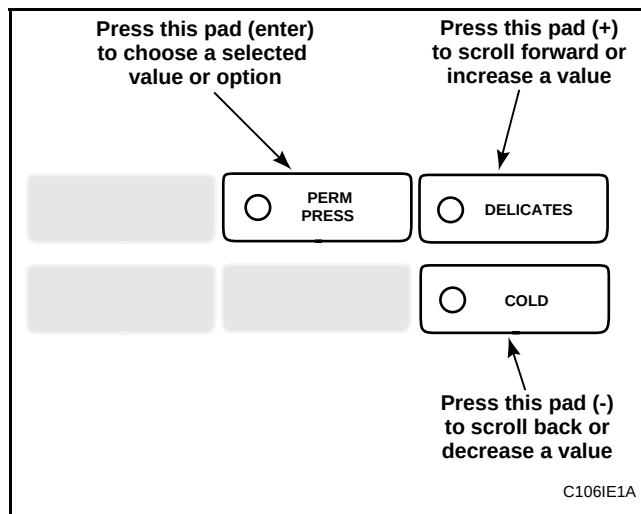

Figure 81
5. Press the DELICATES (+) or the COLD (-) keypad to increase or decrease the current three digit number to “000” or “128.” See **Figure 81**.